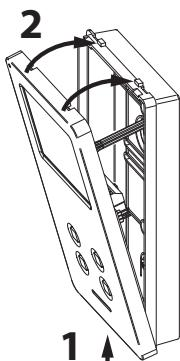

Fig. 9
6. Once testing is complete and all the necessary adjustments are made, close the unit as shown in **Fig. 9**: first hook in the bottom and then the upper part until you hear a "CLICK!".